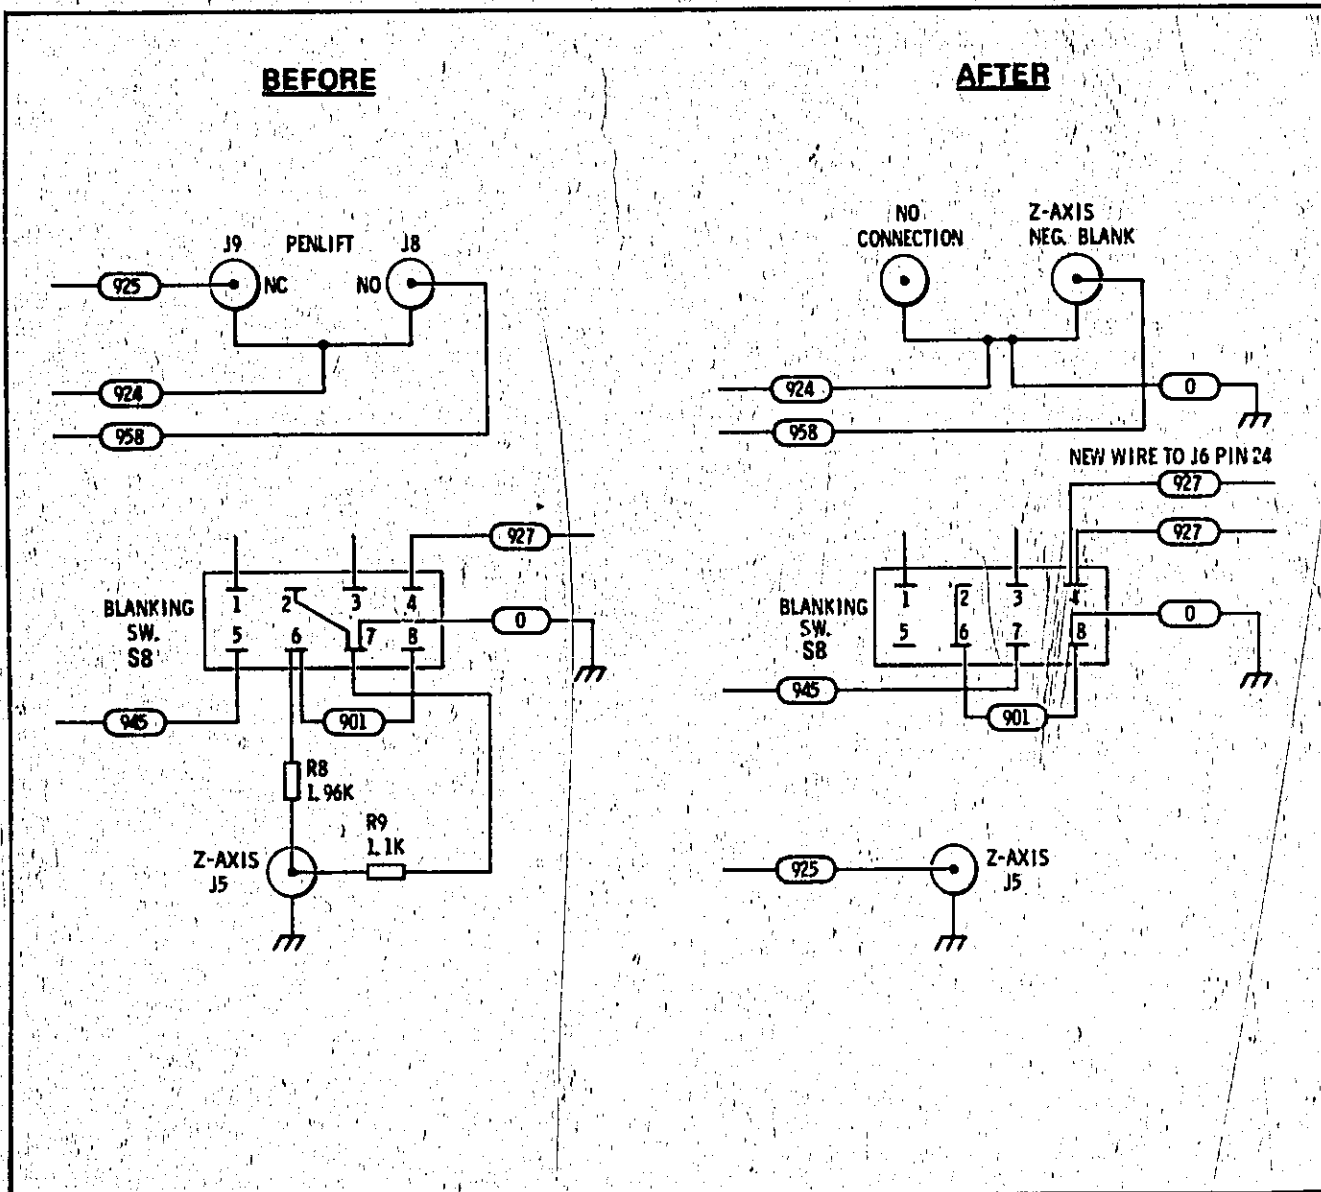

Figure 1. Blanking Switch Wiring Diagram Before And After Modification
4. Cut the white, red, green (925) wire from the Penlift output J8.
5. Connect the (925) wire just removed to the Z-axis output J5.
6. Modify the wiring to the blanking switch S-8 on the rear panel as described below. Figure 1 shows the pin numbering of S-8. S-8 is the three-position slide switch on the rear panel located nearest the fan.